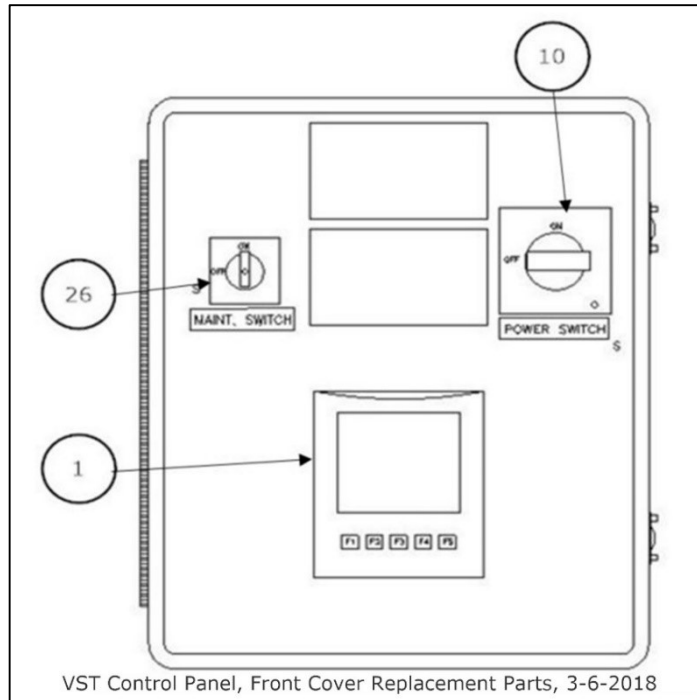

Figure 9-2: VST Control Panel, Front Cover Replacement Parts
- See Figure 9-2, 9-3, and 9-4.
- **See Figure 9-2, 9-4, & 9-8.**
1. Turn OFF power to the VST Control Panel at the Power Switch located on the front of the VST Control Panel (**See Figure 9-2**). (The power, ground, and neutral will be completely disconnected from the GREEN MACHINE).
- **See Figures 9-2, 9-4, & 9-9.**